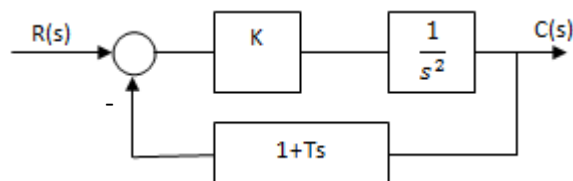

Figure 1
4) For the system shown in Figure 1